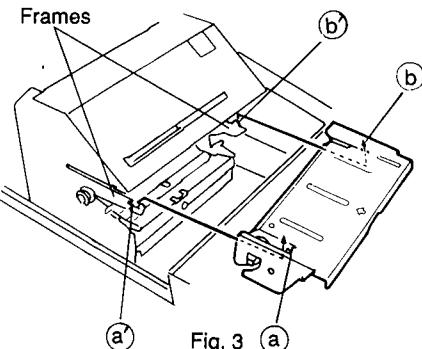

Fig. 3 (a)
4. Mount the ink roller holder on the printer. Insert the holder into the frames at an angle of 40 degrees, fit positioning projections **a** and **b** of the holder into parts **a** and **b** of the frames, then push down the holder to lock it. (Figs. 3 and 4)